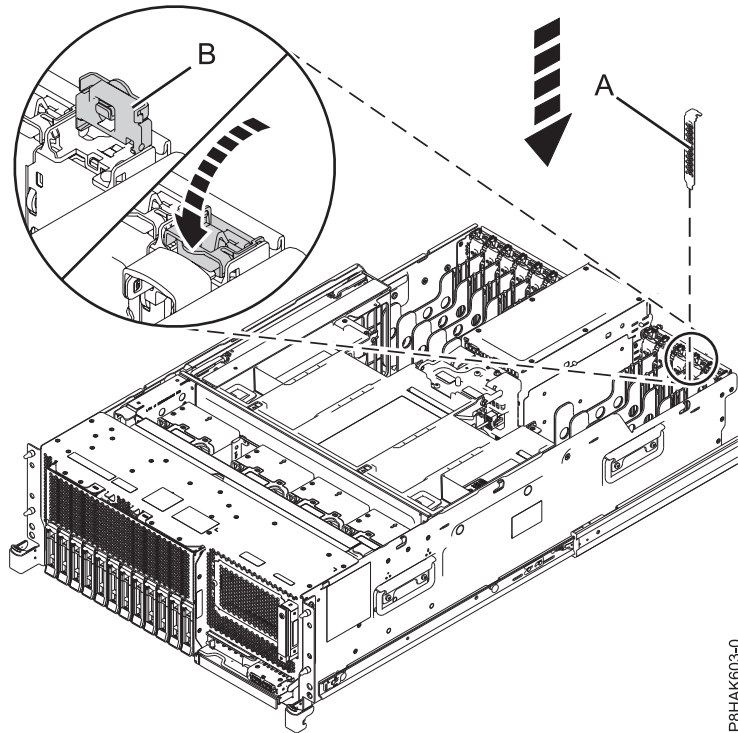
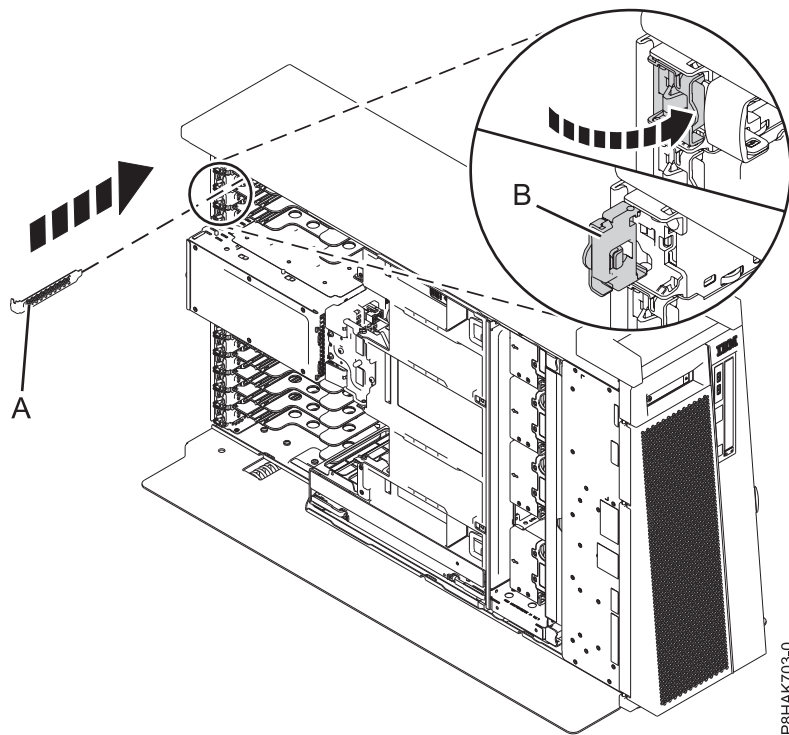

Figure 62. Installing a filler in a PCIe adapter slot in a rack-mounted system
Figure 63. Installing a filler in a PCIe adapter slot in a stand-alone 8286-41A system
- a. Carefully grasp the filler tailstock and align the filler with the slot and its connector on the system backplane, as shown in Figure 62 on page 67 and Figure 63 on page 67.